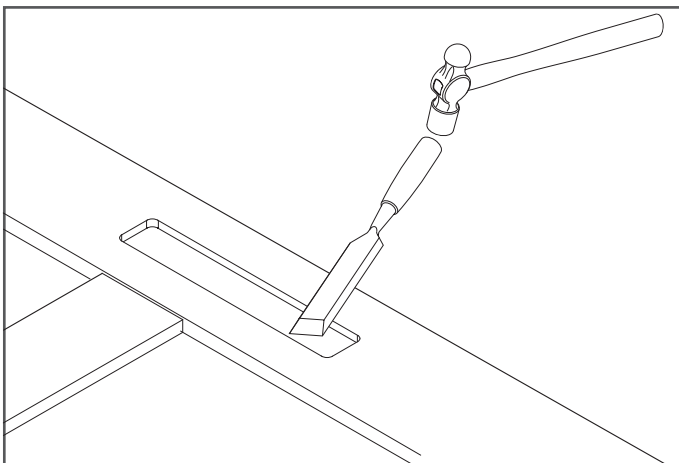

Figure 3
3. Using a hammer and chisel, forstner bit, or router, remove the wood inside the tracing on the door. Be aware of the depth as you work; the depth should be no more than 3/8" (Figure 3).